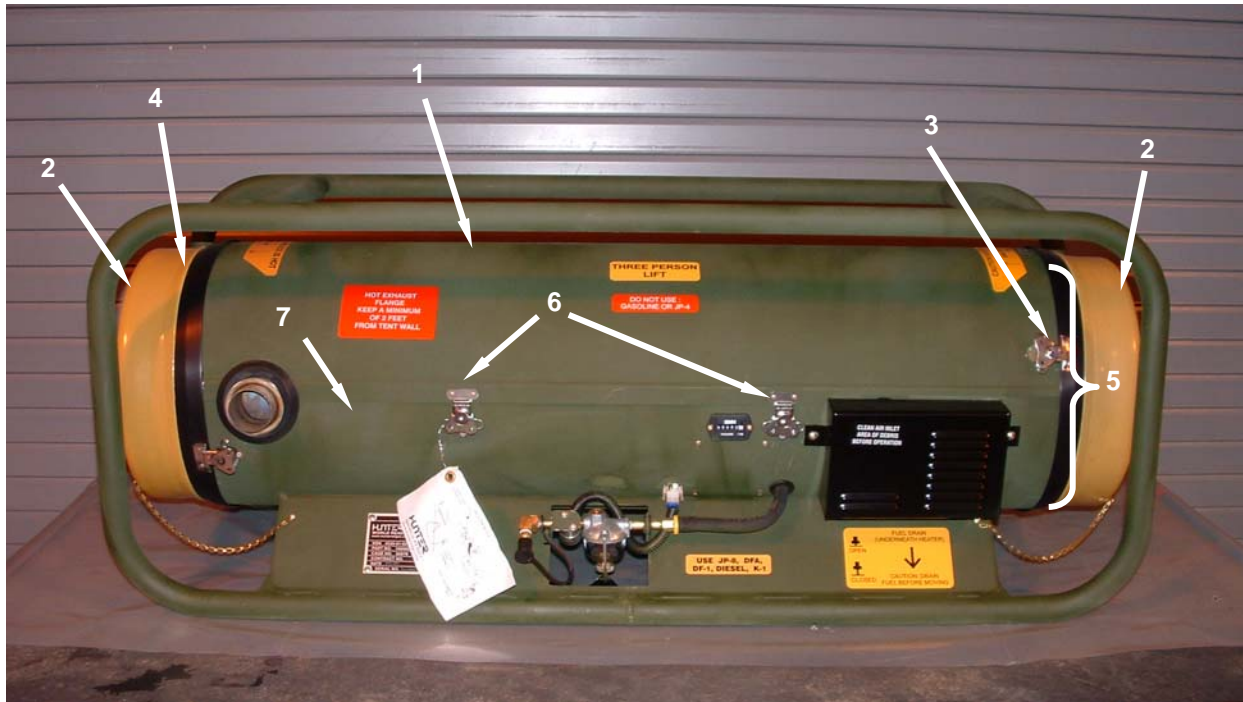

Figure 3. Upper Housing Assembly.
1. To replace the upper housing assembly (**Figure 3, Item 1**), remove the two dust covers (**Figure 3, Item 2**) and set aside.
2. Release the fasteners (**Figure 3, Item 3**) that secure the two duct adapters (**Figure 3, Item 4**) to the heater housing (**Figure 3, Item 5**). Remove the two duct adapters and set aside.
3. Release the four fasteners (**Figure 3, Item 6**) that secure the upper housing assembly (**Figure 3, Item 1**) to the lower housing assembly (**Figure 3, Item 7**).
4. Lift the upper housing assembly (**Figure 3, Item 1**) up and off the lower housing assembly (**Figure 3, Item 7**).
5. Install a new upper housing assembly (**Figure 3, Item 1**) and align with the lower housing assembly (**Figure 3, Item 7**). Align the four fasteners (**Figure 3, Item 6**) with their corresponding keeper plates.
6. Secure all four fasteners (**Figure 3, Item 6**).